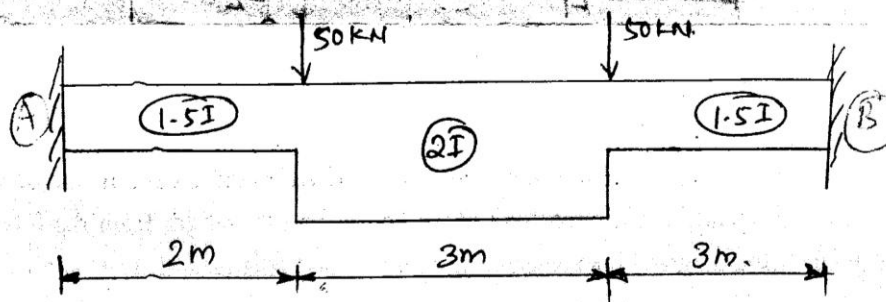

Figure-1.
1. Determine the end moments developed in the beam as shown in figure-1 by column analogy method.